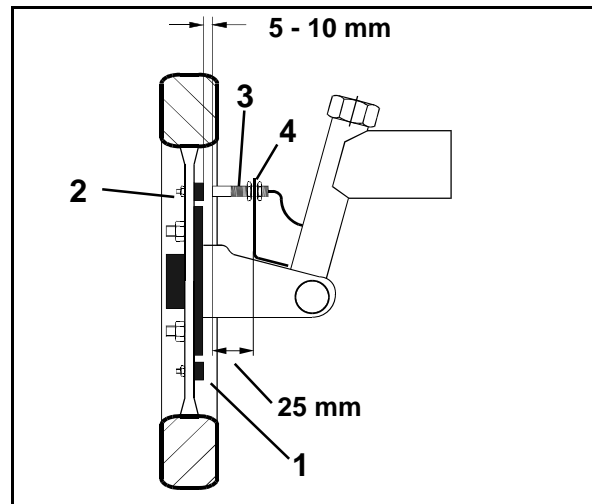

Fig. 176
4. Attach the sensor (Fig. 176/3) by using a universal carrier (Fig. 176/4) to the stub axle of the tractor front wheel – behind the axle seen in direction of travel.